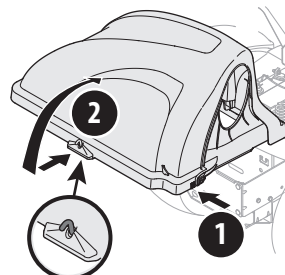

Figure 18
7. Open the hood by pushing in on the rear, right-side tab with your right hand, as seen in (1), and lifting the cover with your left hand in the center rear of the bagger cover (2). See Figure 18.